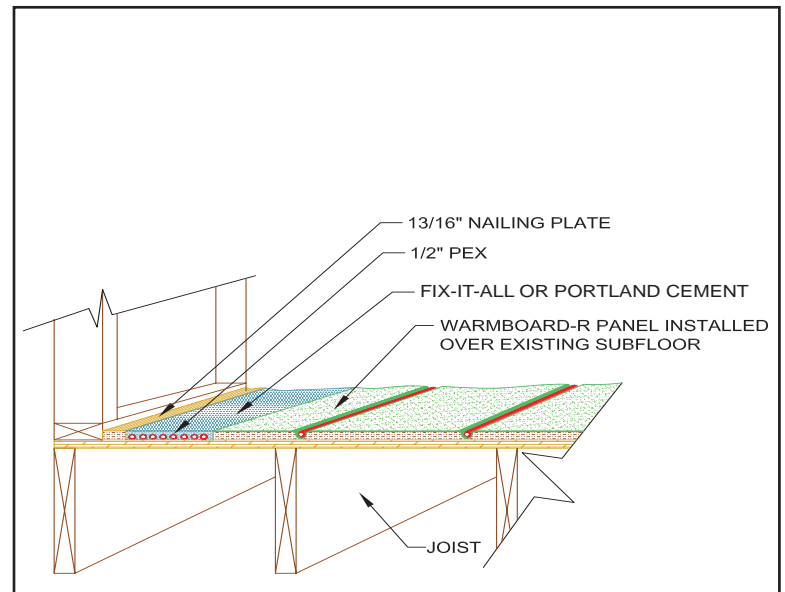

Figure 1.2 - Panel Cut Back Example
- Method 4- uses the “panel cut back” (see figure 1.2) to create a tubing channel above the subfloor for the tubing to return back to the manifold.